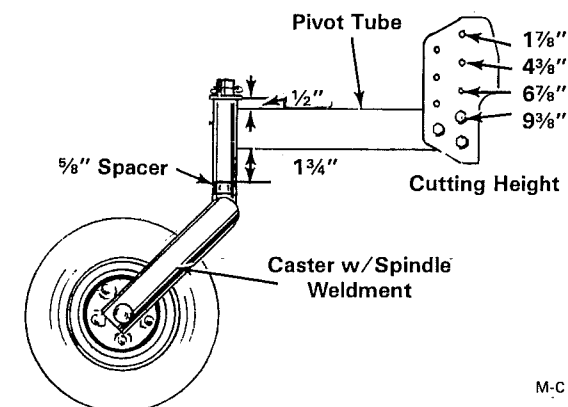

Figure 9
B. When the caster wheel pivot tube is assembled to the caster w/spindle weldment with the long part of the pivot tube ($1\frac{3}{4}$ ") at the bottom as shown in Figures 9 and 10, the cutting height range is $1\frac{7}{8}$ " to $9\frac{3}{8}$ " , see note.